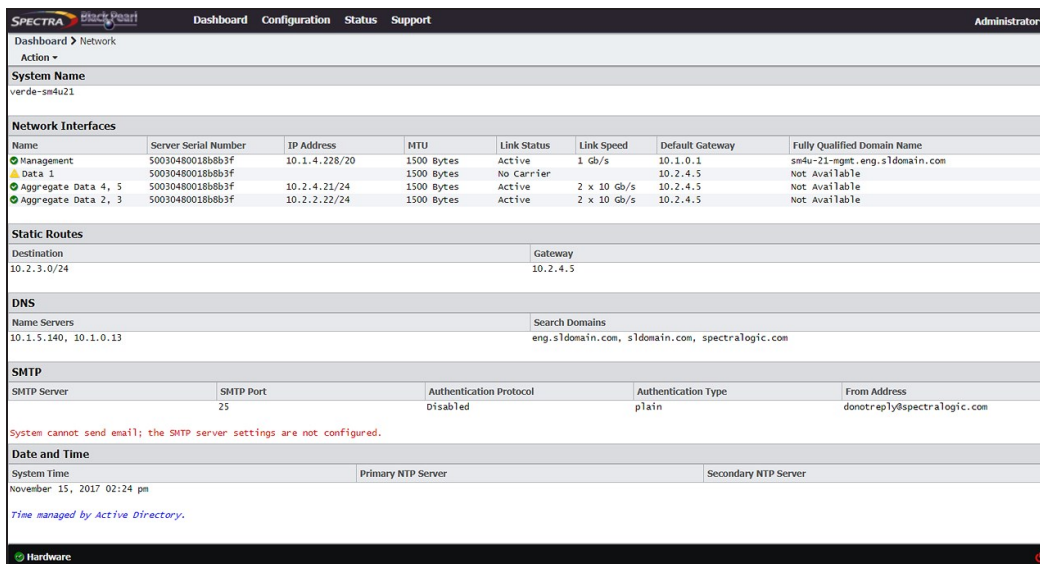

Figure 31 The Network screen.
1. From the menu bar, select **Configuration > Network**, or select the Network pane from the Dashboard screen. The Network screen displays (see Figure 31 on page 82).